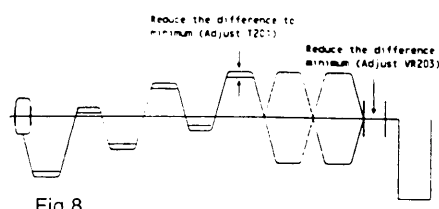

Fig 8.
- 4: Adjust T301 and VR203 to obtain the waveform as in fig. 8.